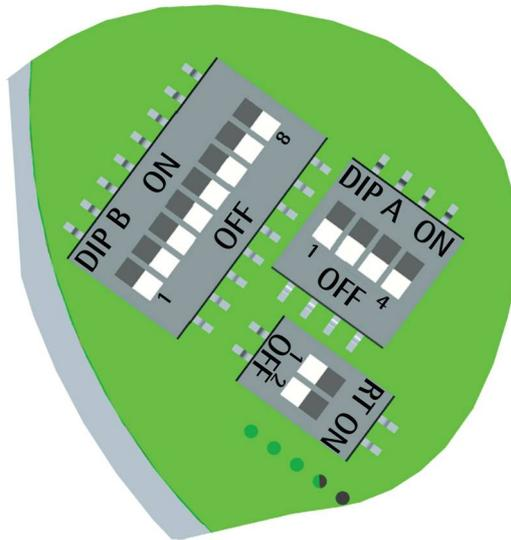

Figure 3: DIP-Switches
4.5 Dip-Switches (Figure 2 and Figure 3)
4.5.1 Setting data transmission rate: Baud rate and Parity bit (Figure 3)
4.5.2 Setting the node address (Figure 3)
4.5.3 Bus termination (Figure 3)
- set the data transmission rate (baud rate and parity bit; see section "4.5.1 Setting data transmission rate: Baud rate and Parity bit (Figure 3)" on page 22); the default value set by Lika Electronic at factory set-up is "baud rate = 19200 bit/s, parity = Even";
- set the node address (node ID; see section "4.5.2 Setting the node address (Figure 3)" on page 24); the default value set by Lika Electronic at factory set-up is "1";
- **ADDRESS FIELD:** on Modbus Serial Line the address field only contains the Slave address. As previously stated (see section "4.5.2 Setting the node address (Figure 3)" on page 24), the valid Slave node addresses are in the range of 0 – 247 decimal. The individual Slave devices are assigned addresses in the range of 1 – 247. A Master addresses a Slave by placing the Slave address in the **ADDRESS FIELD** of the message. When the Slave returns its response, it places its own address in the response **ADDRESS FIELD** to let the Master know which Slave is responding.